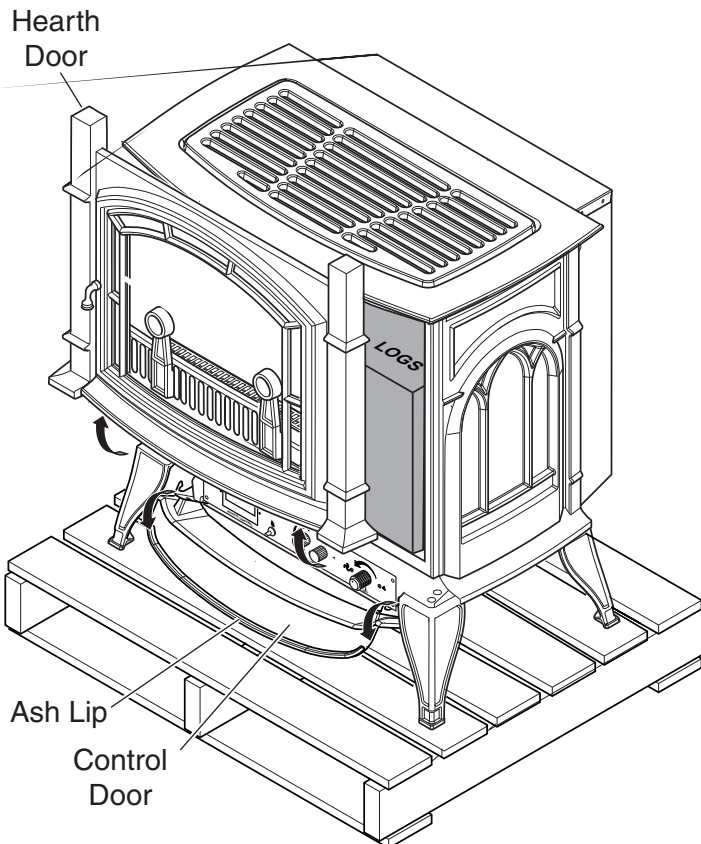

Figure 8 - Opening Control Door and Removing Hearth Door
2. Open plastic bag and slide to bottom of unit. See Figure 8.